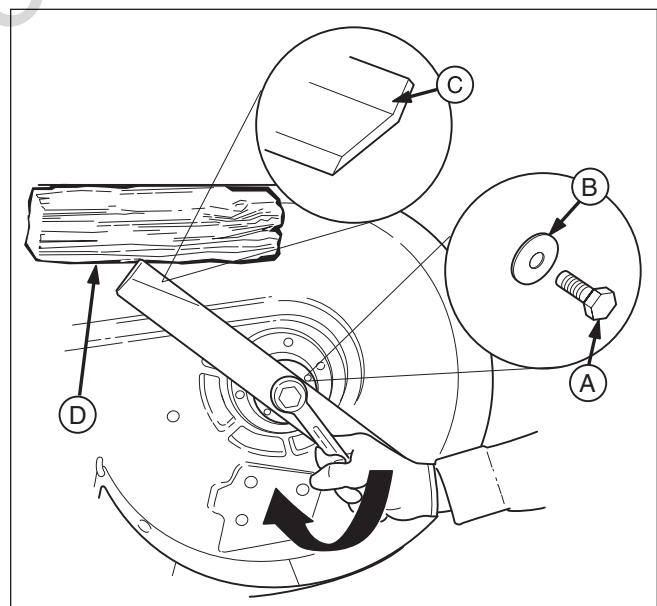

Figure 23. Tightening the Mower Blade for Installation
1. Reinstall each mower blade with the air lifts pointing up towards the mower deck as shown in Figure 23. Secure with the mower blade mounting bolt and flat washer (**A & B, Figure 23**).